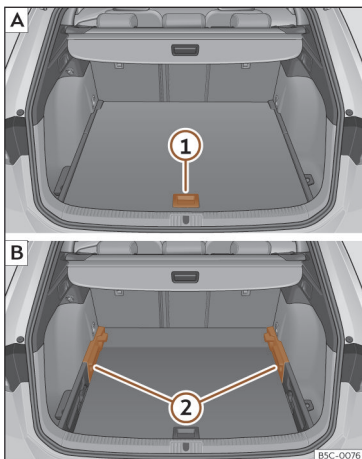

Fig. 187 Variable luggage compartment floor: **A** raised position; **B** lowered position.
- To move from the low position to the high position, lift the floor using the handle >>> **Fig. 187** ①, and pull it back until the front of the floor has fully passed the supports ②.
- Move the floor forward over the supports as far as the rear seat backrest and then lower the floor with the handle ①.
- To move from the high position to the low position, lift the floor using the handle >>> **Fig. 187** ①, and pull it back until the front of the floor has fully passed the supports ②.
- Now let the front part fall to the floor and slide the floor forwards as far as the rear seat backrest; lower the floor at the same time with the handle ①.
- Lift the variable floor in the high position using handle >>> **Fig. 187** ①, pull it up and push it towards the backrest of the rear seats until it folds along the hinge line and the movable part of the floor is resting on itself.